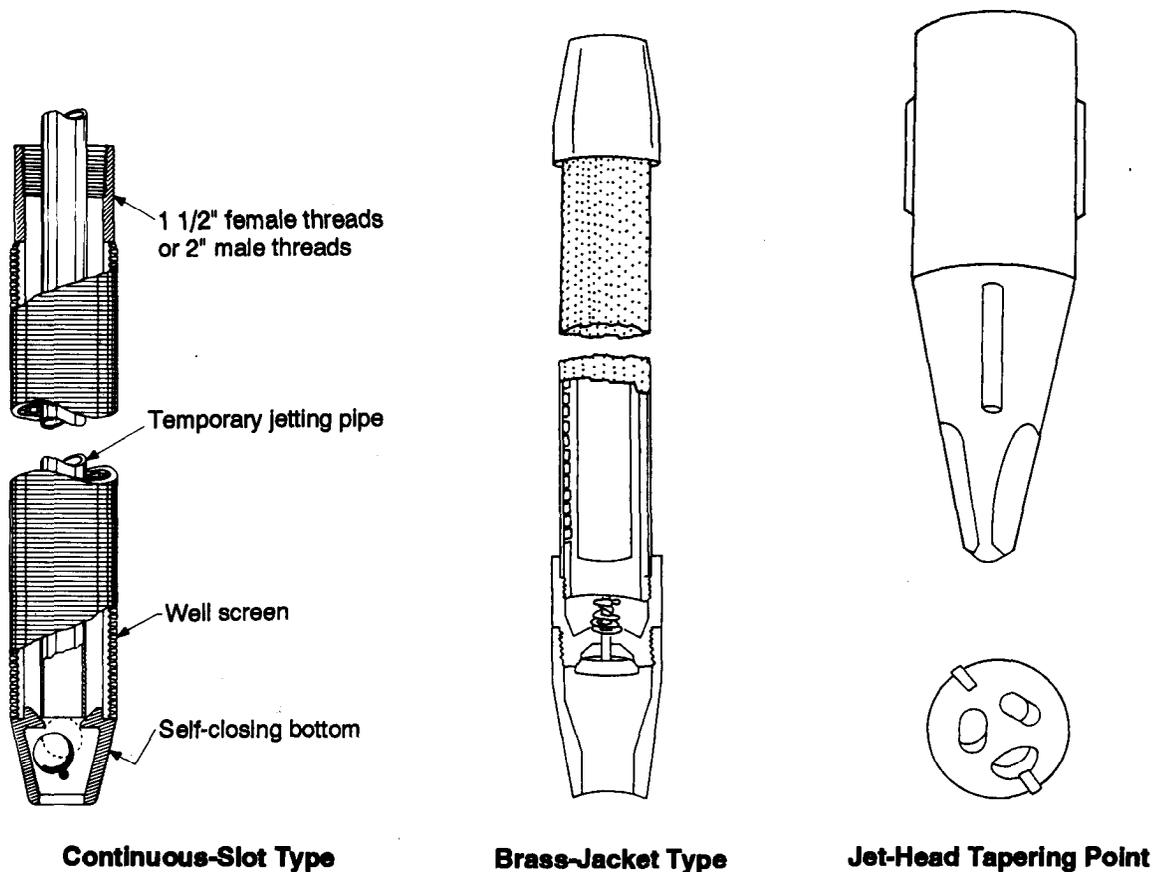

Figure 9-5. Well points
(2) Self-Jetting. Figure 9-5 shows the well-point types needed in self-jetting. The continuous slot has a screen constructed of a narrow ribbon of metal wound spirally around a skeleton of longitudinal rods. The brass jacket consists of a woven wire gauze wrapped around a perforated pipe and covered with perforated brass sheet. The jetting head contains a spring-loaded disk or ball-type valve that opens when water is forced through during the jetting operation. The valve closes automatically when jetting stops or the well is completed and pumping begins.